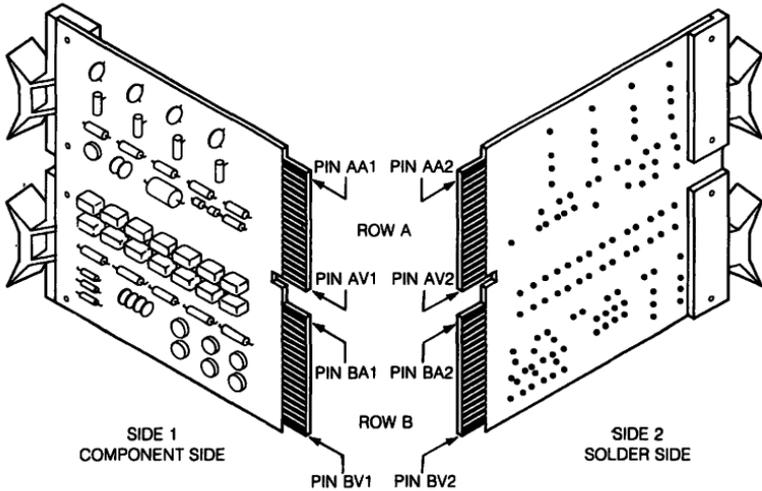

Figure 1-1 ■ Dual-Height Module Contact Pin Identification
- The two slots are designated A or B— matching rows A and B on the module (as shown in Figure 1-1).